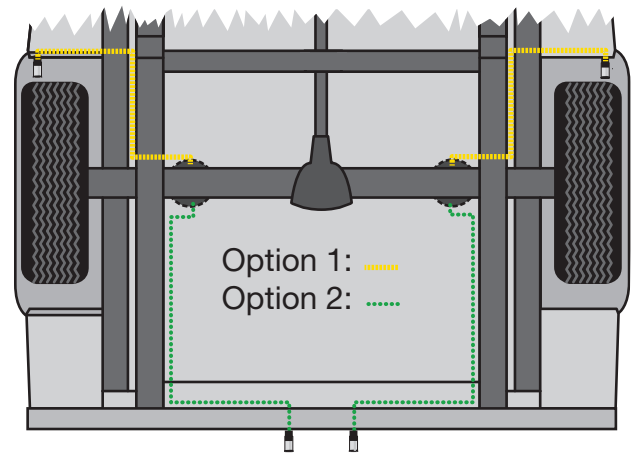

fig. 17
4. Place a 5/16" nut and star washer on the air valve. Leave enough of the inflation valve in front of the nut to extend through the hole and have room for the rubber washer, flat washer, and 5/16" nut and cap. There should be enough valve exposed after installation – approximately 1/2" – to easily apply a pressure gauge or an air chuck (fig. 17).